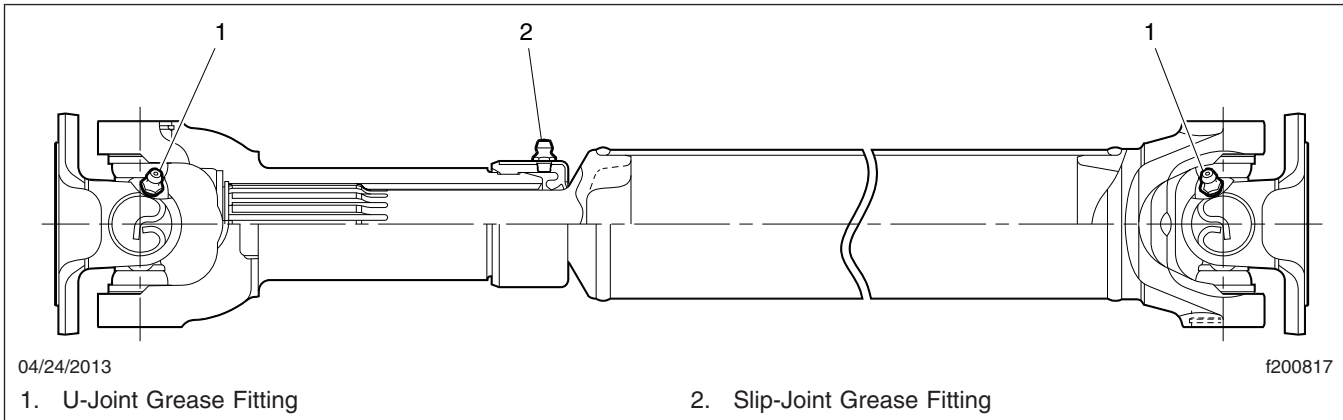

Fig. 5, Slip-Joint and U-Joint Lubricating
2. Use a hand-type grease gun, or a high-pressure gun with a low-pressure adaptor, to lubricate the U-joints. See **Fig. 5**.
3. Use a hand-type grease gun or a high-pressure gun with a low-pressure adaptor, to lubricate the slip-joint. See Fig. 5. Using lithium 12-hydroxy stearate grease (NLGI grade 2, with EP additives and meeting ASTM D4950 LB specifications), lubricate until fresh grease appears at the pressure-relief hole in the yoke plug. Then cover the relief hole with your finger, while continuing to lubricate until fresh grease appears at the slip-joint seal. This ensures complete lubrication of the splines.